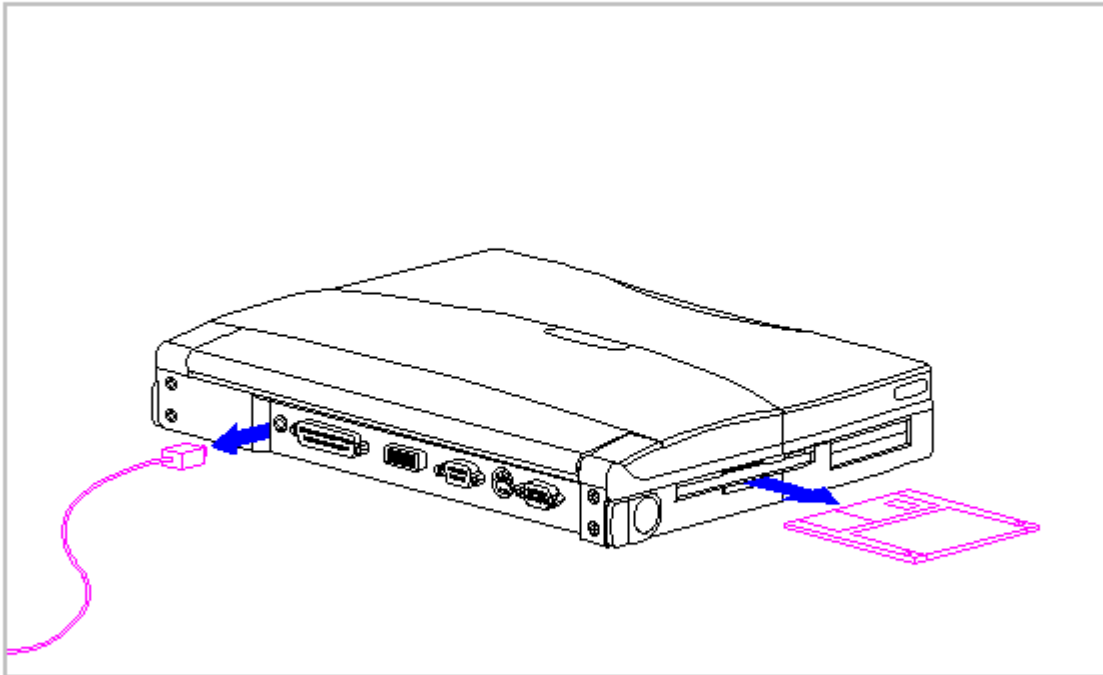

Figure 3-2. Disconnecting the AC Adapter and Ejecting the Diskette
5. Disconnect the AC Adapter power cord from the computer (Figure 3-2).
6. Eject the diskette (Figure 3-2) and PC Card, if installed.